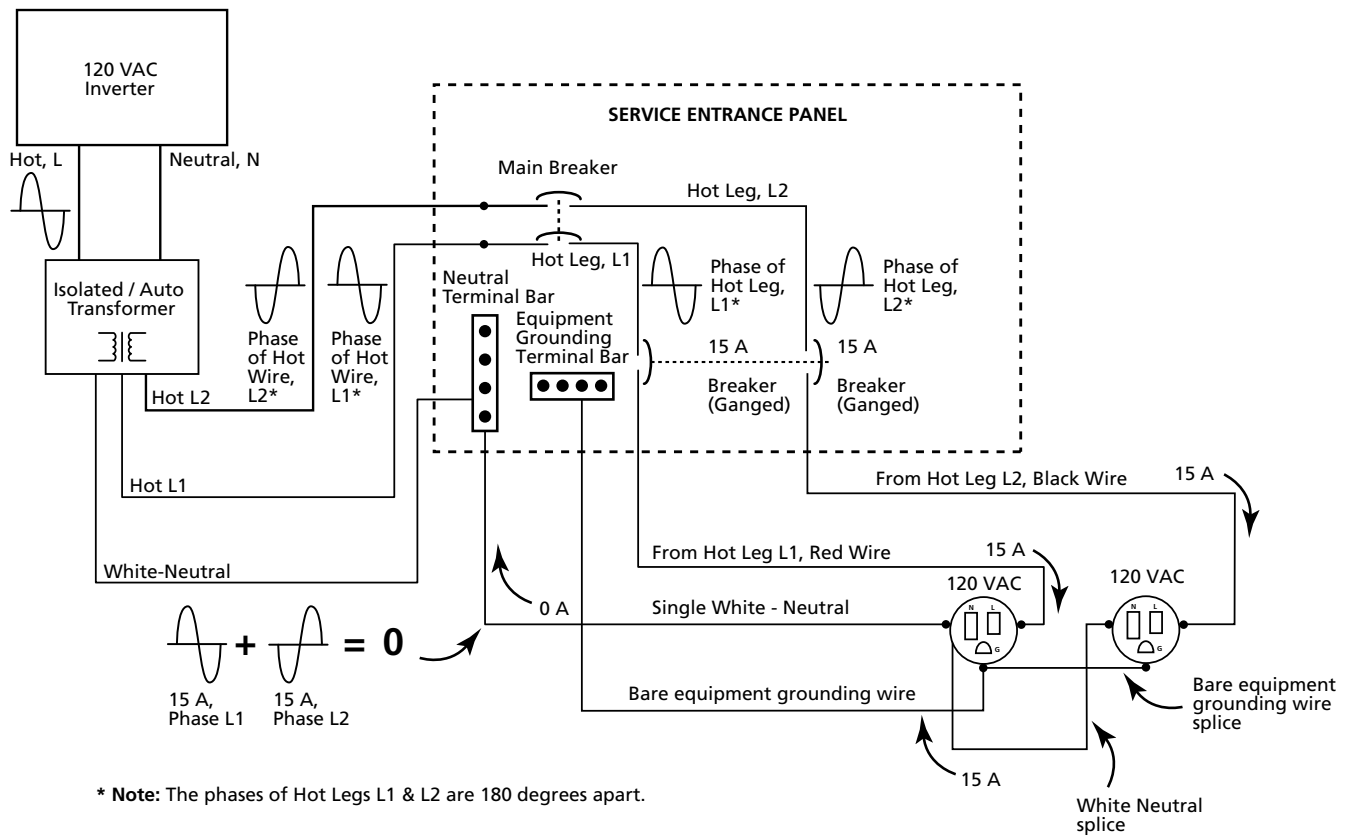

Fig. 4: Connecting inverter to the Service Entrance Panel / Load Center / Distribution Panel through a transformer to accommodate Multi-wire Branch Circuits
- A suitable transformer with a Split Phase output (Isolated or Auto-Transformer) of suitable power rating (25 % more than the Surge Power (VA) rating of the inverter) with Primary of 120 VAC and Secondary of 120 / 240 VAC (Two 120 VAC Split Phases 180 degrees apart) should be used. The Hot and Neutral of the 120 VAC output of this unit should be fed to the Primary of this transformer and the 2 Hot outputs (120 VAC Split Phases) and the Neutral from the Secondary of this transformer should be connected to the two Hot Legs L1 and L2 of the 120 / 240 VAC Service Entrance Panel / Load Center / Distribution Panel (see Fig. 4 page 5).